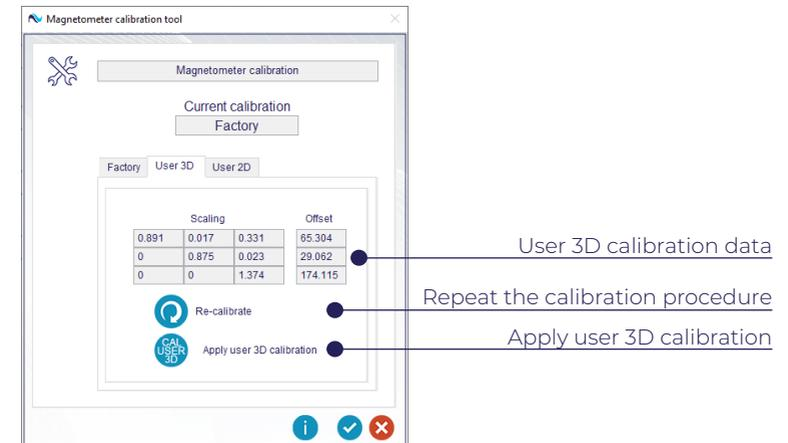

Figure 55 - User 3D calibration data panel.
3. If *Proceed to calibration* is selected, the software calculates the calibration data and the magnetometer calibration panels opens again at the *User 3D* tab, which now it is filled with the calculated magnetometer *Scaling* and *Offset* calibration data as in Figure 55. From this tab it is possible to click on *Save 3D calibration data to memory* or *Clear 3D calibration data from memory* (if already present): saving the 3D calibration data to memory allows to switch between calibration modes keeping the possibility of recalling the calibration data without repeating the 3D calibration procedure.